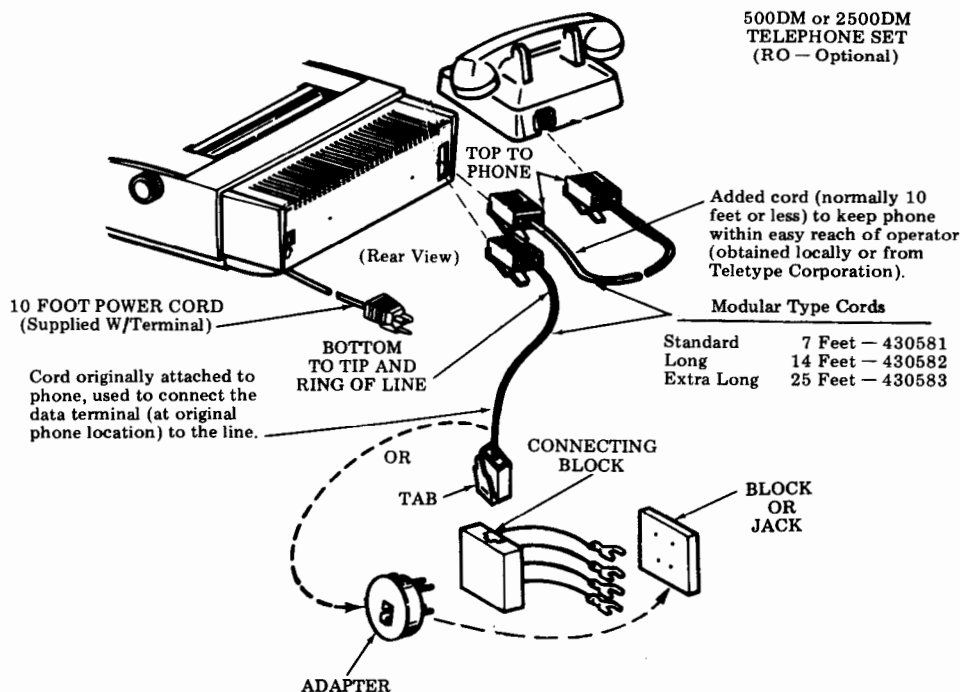

Fig. 4—Telephone Connection
3.08 Unplug the modular plug of the modular cord from the modular jack associated with the telephone specified on the service order (compress tab to release) and connect it to the lower connector marked LINE on the rear of the TDU accessible through the opening in the left rear of the bustle cover (Fig. 4). If telephone is not to be placed at original phone location, a